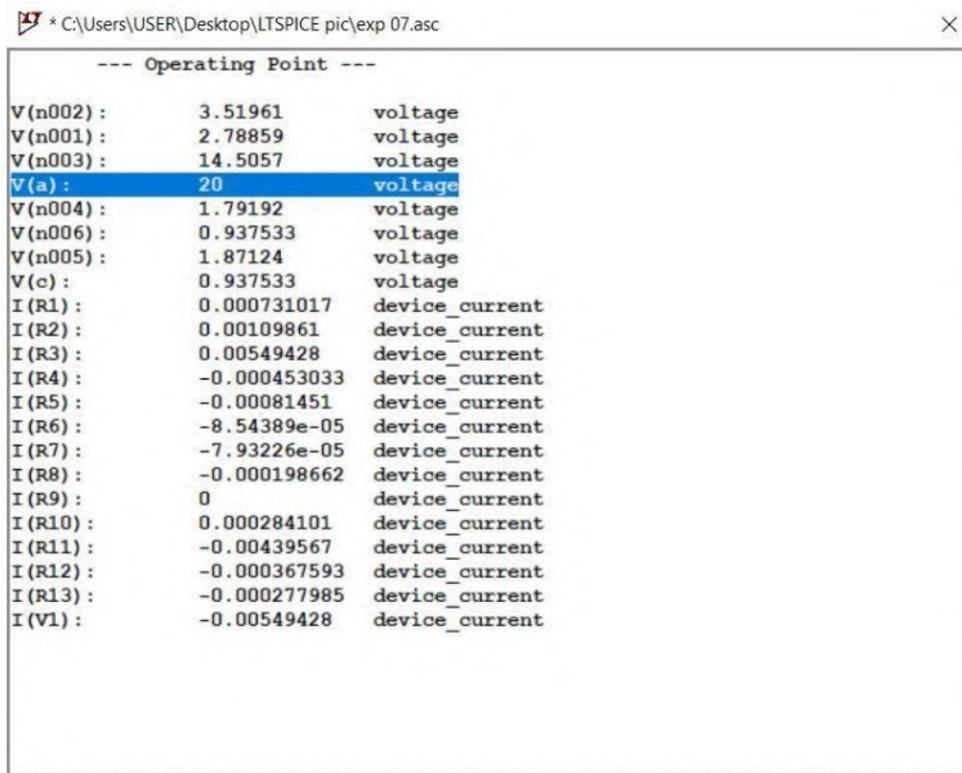
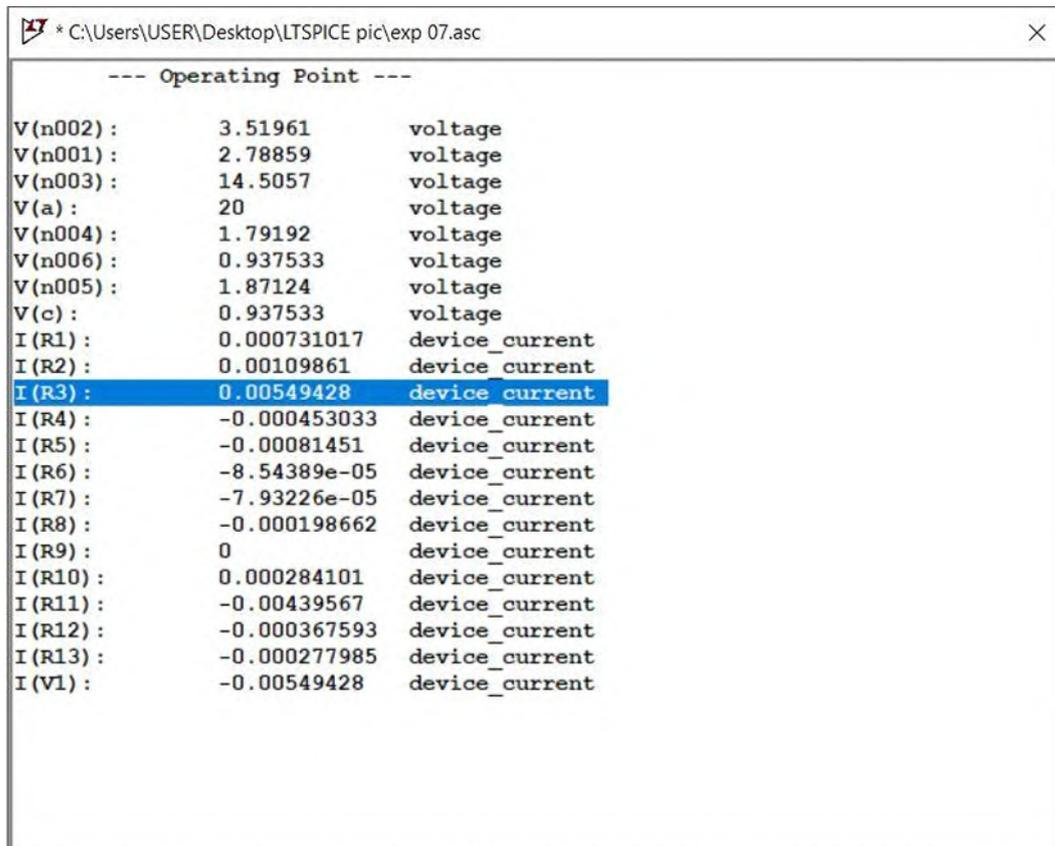

Figure: 14
Figure: 15
- 3) From the output window shown in figure 14 and figure 15 find the Vs and Is in the circuit.